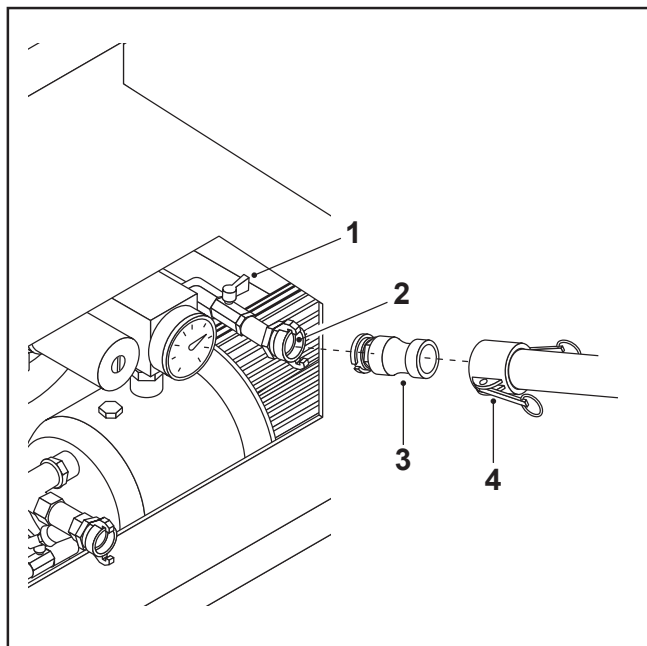

FIG.28
- Connect the water-mortar coupling (FIG.28-REF.3) to the quick coupling (FIG.28-REF.2) of the auxiliary valve and connect the hose to it (FIG.28-REF.4).
- Open the auxiliary valve (FIG.28-REF.1).